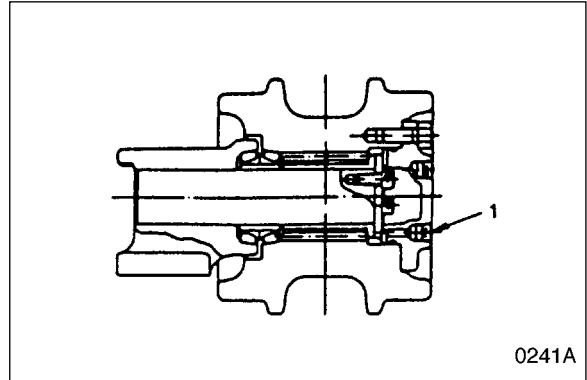

Figure 42
1. Remove the plug (1, Figure 42) from the cover and drain oil.